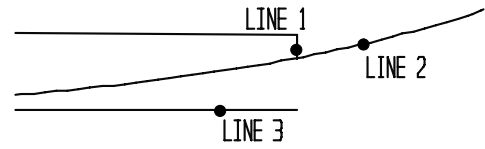

FIG. 9
Step 6. Trim one line, to trim part of a line, click the line you are to keep, Line 1, **Fig. 9**. Move cursor close to the intersection with Line 2 and click. Trim the other lines. First click Line 1, then click Line 2.
Step 7. Delete Line 3, **Fig. 9**. Use **CTRL-Q** to delete the line. Hold down CTRL and press Q. Move the cursor over the line, select with a click and press ENTER.